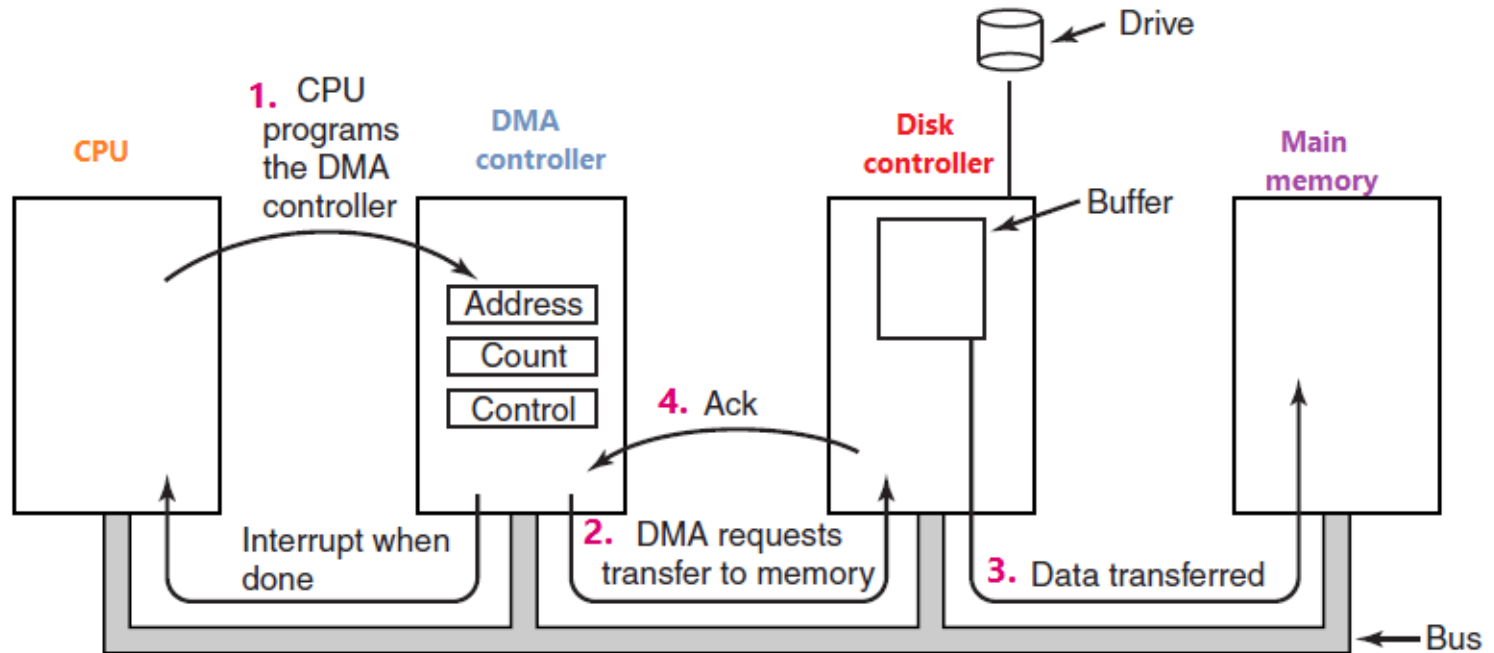

Figure 5-4. Operation of a DMA transfer
- We assume that the CPU accesses all devices and memory via a single system bus that connects the CPU, the memory, and the I/O devices, as shown in Fig. 5-4
- The DMA controller has access to the system bus independent of the CPU, as shown in Fig. 5-4